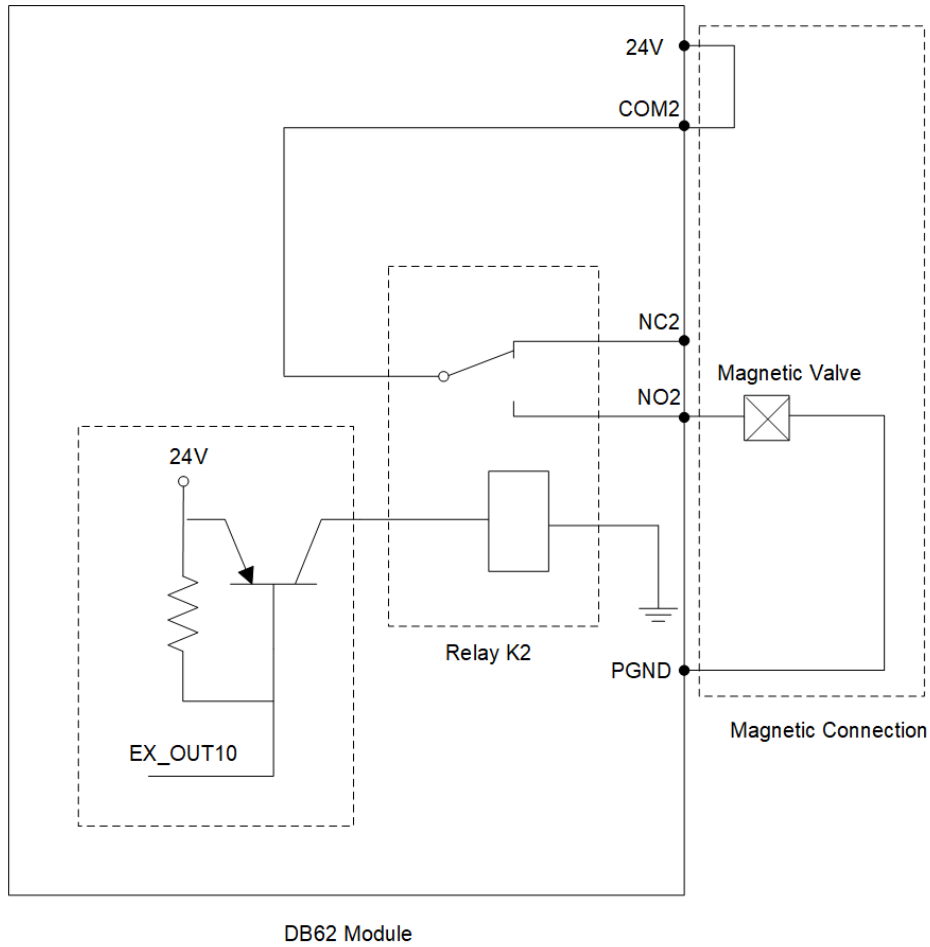

Figure 6.57 Connect to magnetic valve
Step 2 Connect the relay K2 to the magnetic valve, as shown in Figure 6.57.